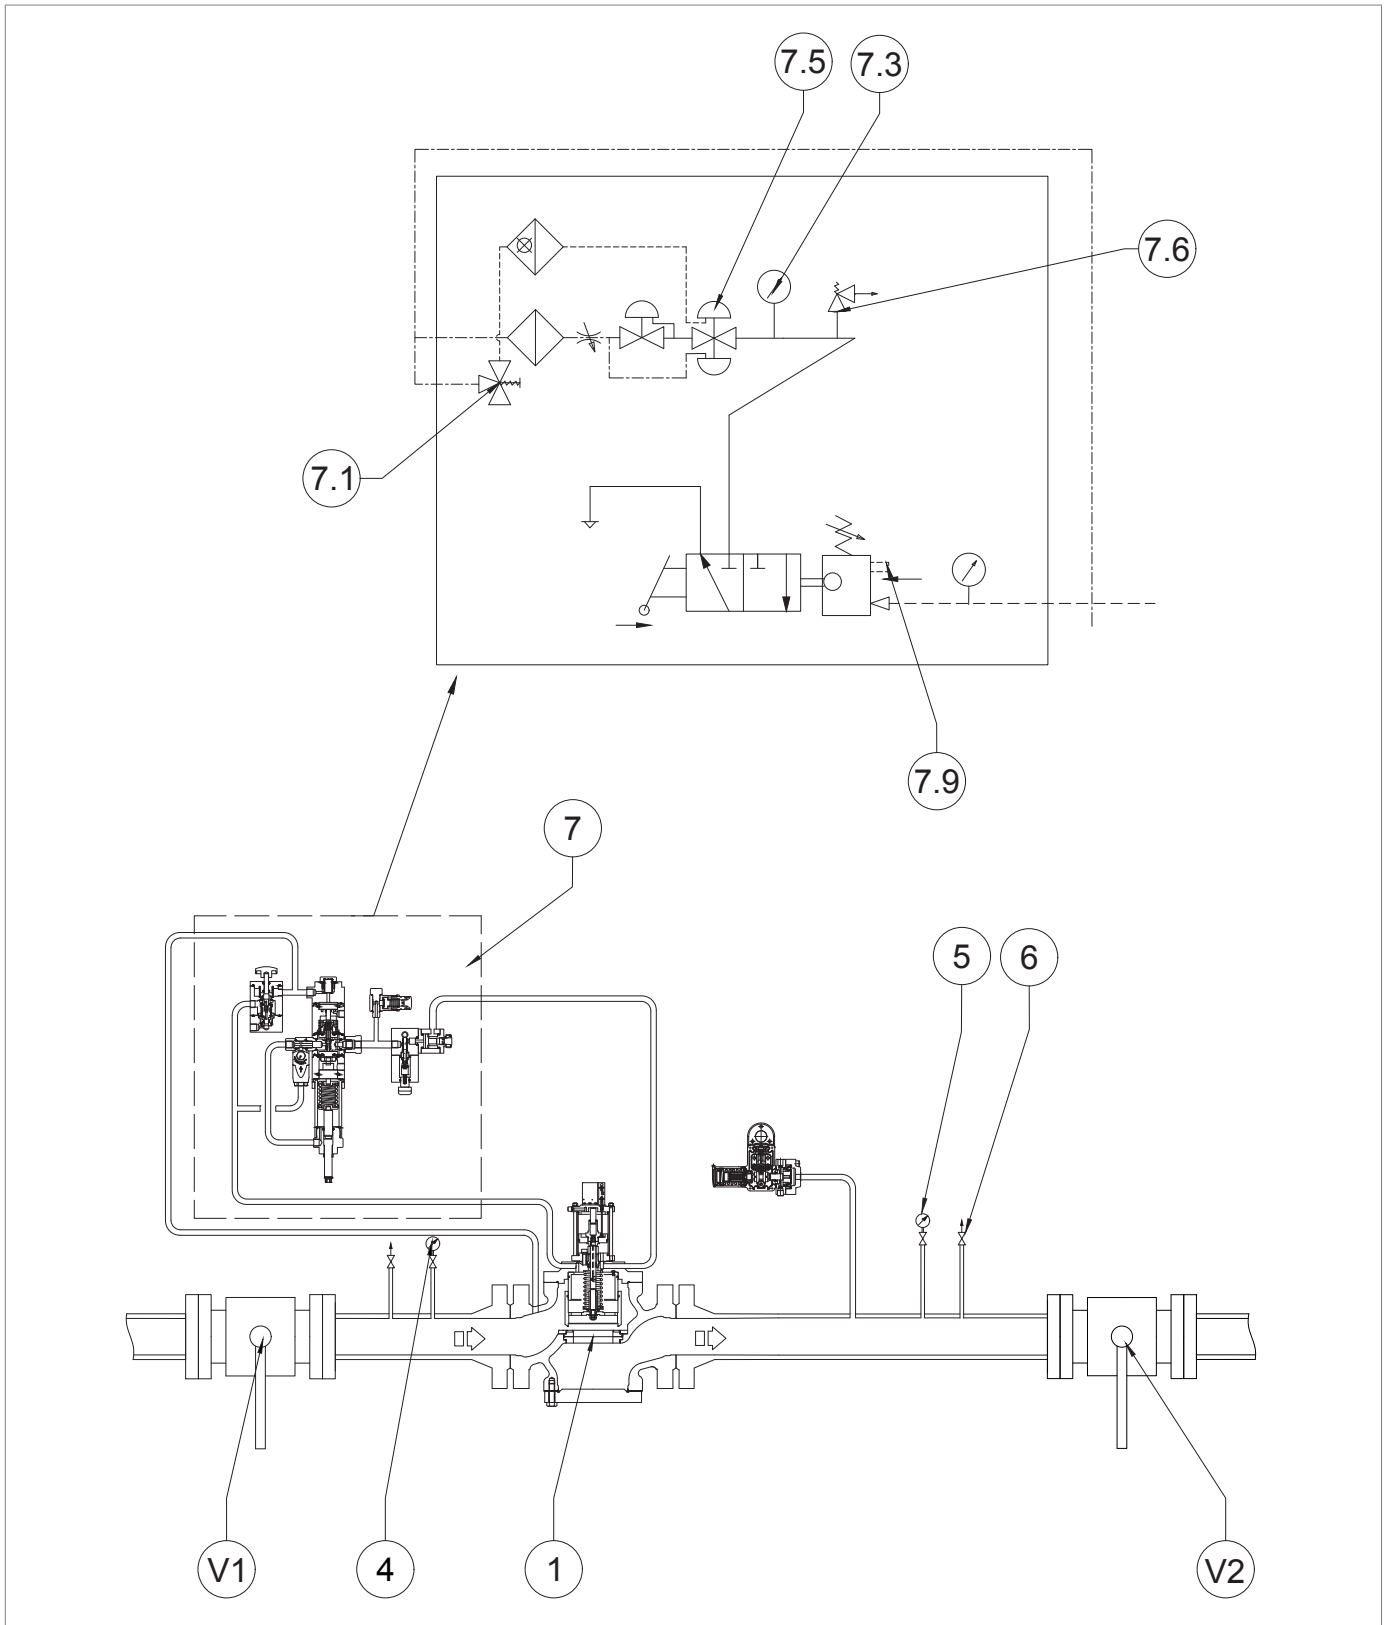

Fig. 8.14. Commissioning and calibration LINE OFF 2.0 for HBC 975
**Next, check that the pressure indicated by the pressure gauge installed on the LINE OFF 2.0 device (Pos. 7.3 - Figure 8.14.) is 0 bar, ensuring complete depressurisation of the line.**
- Next, check that the pressure indicated by the pressure gauge installed on the LINE OFF 2.0 device (Pos. 7.3 - Figure 8.14.) is 0 bar, ensuring complete depressurisation of the line.**
- Next, check that the pressure indicated by the pressure gauge installed on the LINE OFF 2.0 device (Pos. 7.3 - Figure 8.14.) is 0 bar, ensuring complete depressurisation of the line.